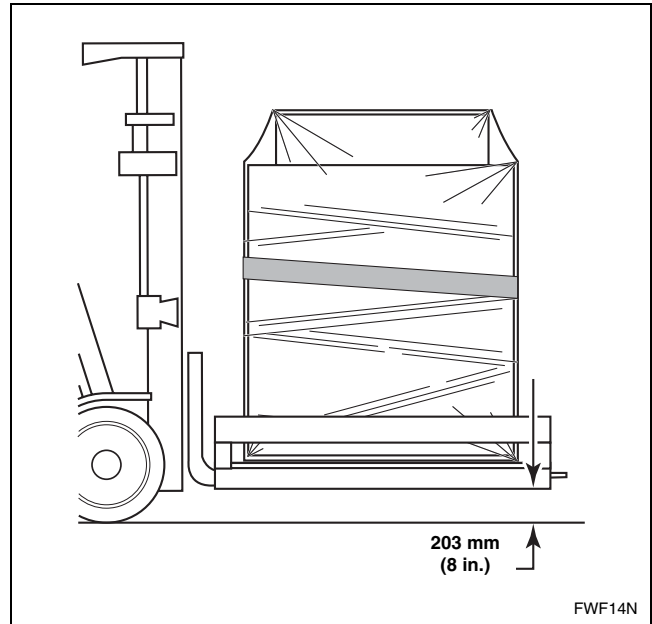

Figure 3
3. Use the forklift to carefully lift the packaged finisher. Refer to *Figure 3*.